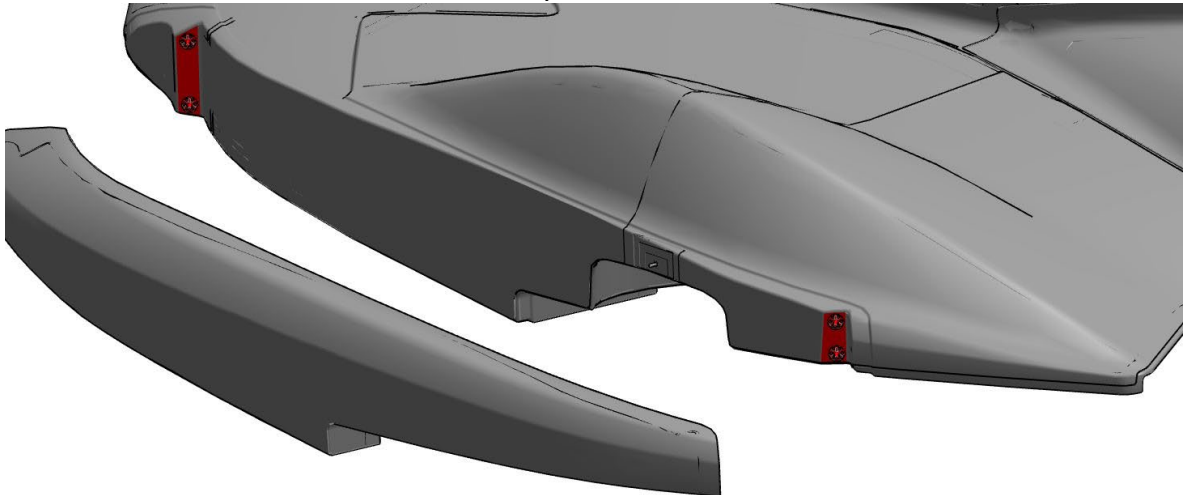

Figure 1. Bonding Area
- a. Wipe areas marked in red (Figure 1) the RH and LH Seawing with isopropyl alcohol and a lint-free cloth. Allow 15 minutes to dry.